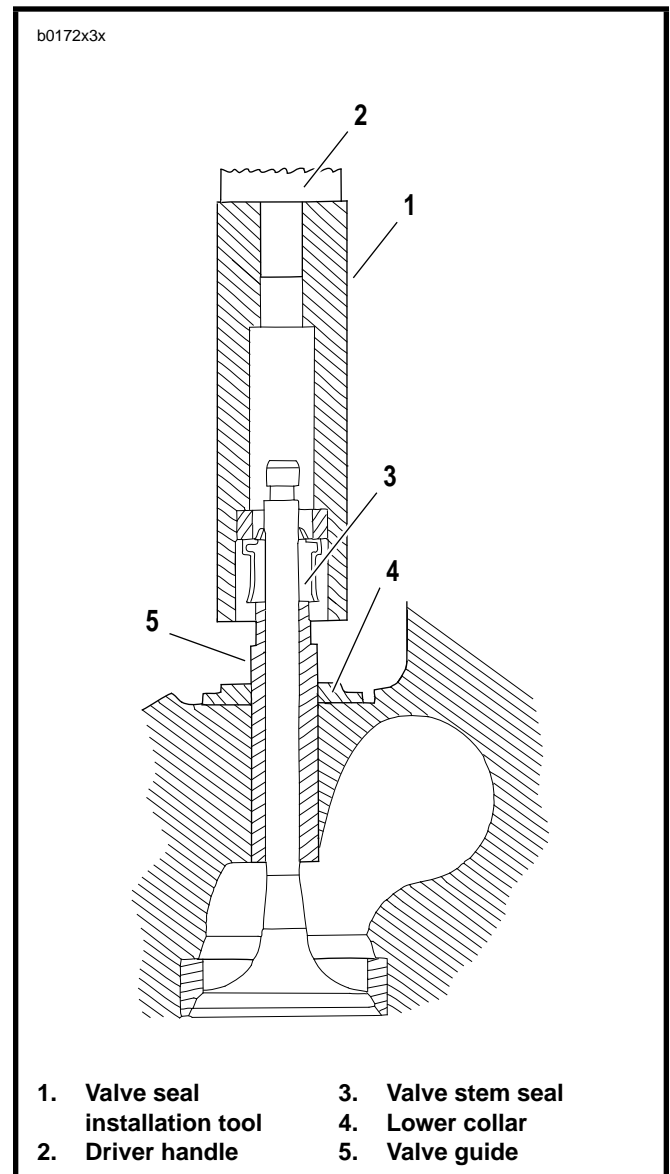

Figure 3-24. Valve Seal Installation
5. See Figure 3-24. Insert valve into guide and install lower collar (4).
7. See Figure 3-24. Tap the seal onto the guide using the VALVE SEAL INSTALLATION TOOL \(Part No. HD-34643A\) and DRIVER HANDLE \(Part No. HD-34740\). The seal is completely installed when the tool touches the lower collar (4).